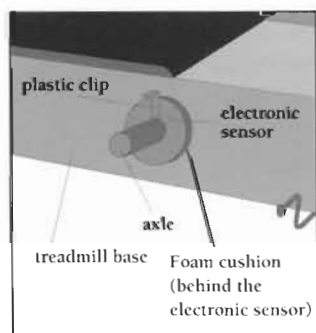

Figure 1
2. Rotate the plastic clip behind the axle so that the clip is in the "12 o'clock" position (Figure 1).